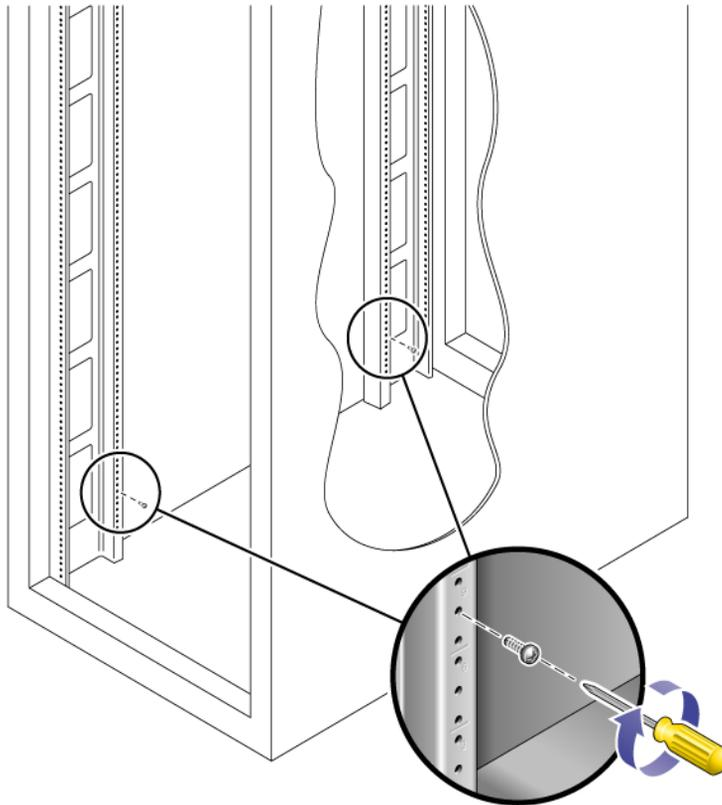

FIGURE 2-7 Inserting Rail Mounting Screws in Middle Holes of the Upper Mounting Unit of the Mounting Slot
1. In each of the four inner mounting rails, insert a 10-32 screw in the center hole of the mounting unit of the 3RU slot in which the tray is to be mounted (FIGURE 2-7). Do not tighten at this time. You will hang the side rails on these screws.